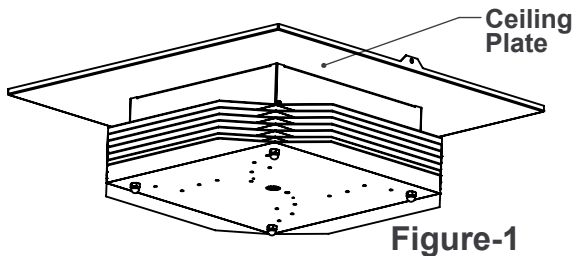

Figure-1
- 1) Remove the fixture from the shipping carton. (see Figure-1)